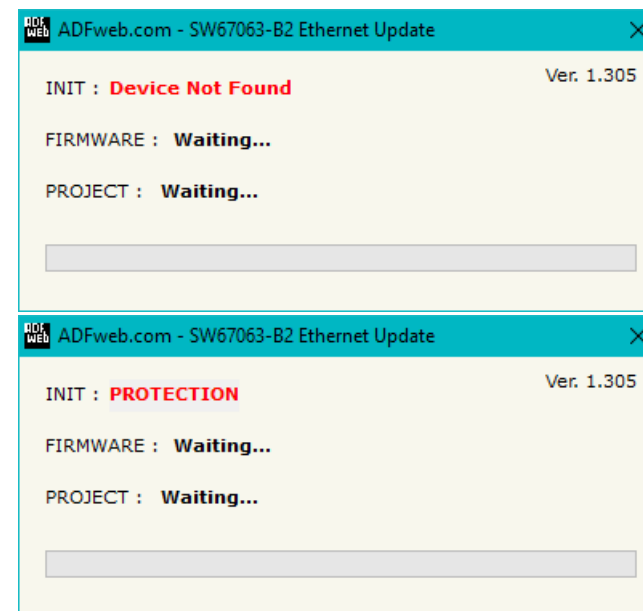

Figure 7: "Protection" window
**Warning:** If Fig. 7 appears when you try to do the Update try these points before seeking assistance: